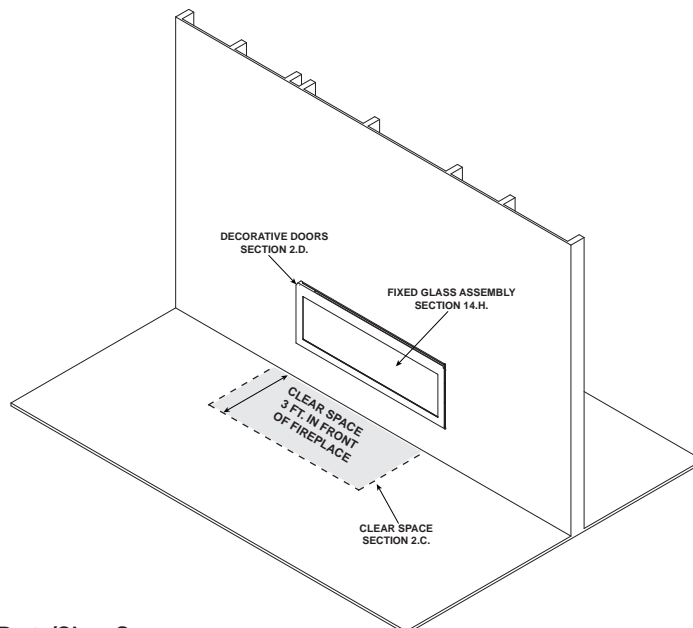

Figure 2.1 General Operating Parts/Clear Space.
**WARNING! DO NOT place combustible objects in front of the fireplace.** High temperatures may start a fire. See Figure 2.1.